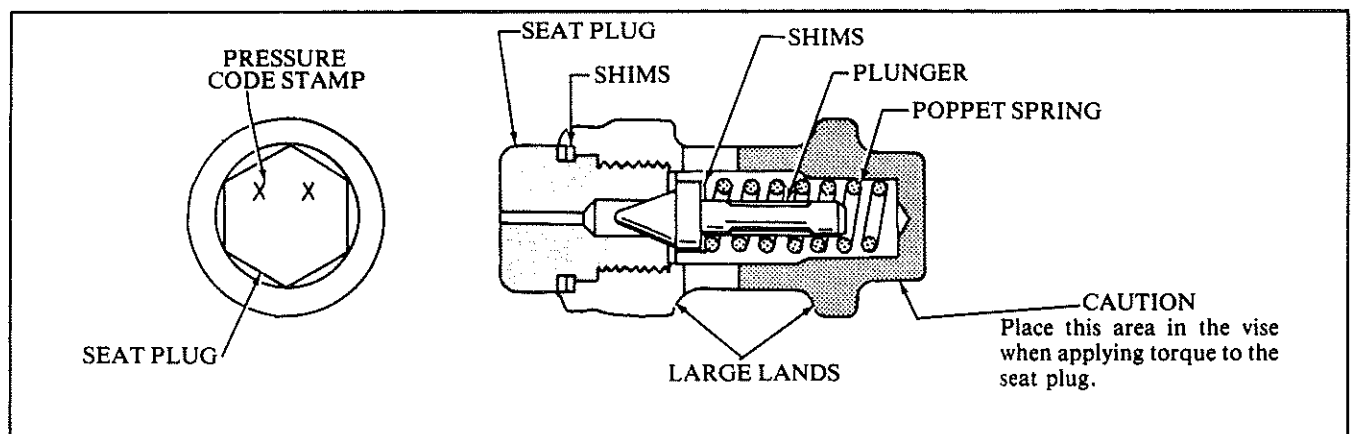

Figure 9. Sectional View of Flow Control Relief Valve S/A
a. Refer to Figure 9 and place the control valve S/A in a bench vise. Tighten the vise enough to prevent the plunger from turning. **DO NOT HOLD PLUNGER IN VISE BY THE LARGE LANDS.**
i. Install flow control relief valve (48) with the hex head going first into the bore. The hex headed seat plug (Figure 9) must be located within spring (49). Install a new "O" ring (47) on plug (46) and slide the plug into cover. Press plug fully in and insert tapered pin (45) to retain the plug in place. Tap the tapered pin in to lock in place.